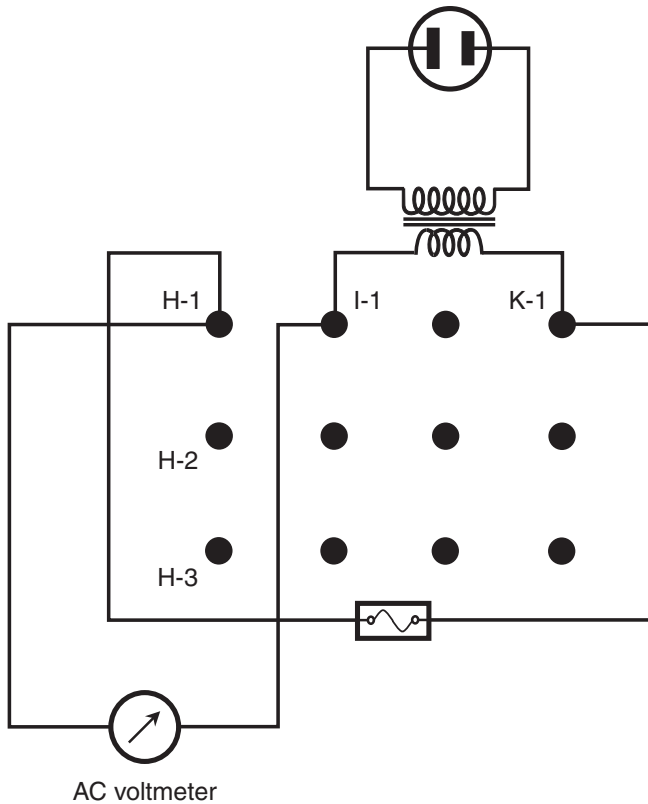

Figure AC7-1 *Measurement of the open-circuit AC voltage across the transformer's secondary winding.*
Set the transformer for its low-voltage output [rated at 18 volts (V) RMS]. Using your digital multimeter, measure the open-circuit AC voltage across the transformer's secondary winding with the fuse in the line (Fig. AC7-1). When I conducted this test, I got 19.4 V RMS, somewhat higher than the rated voltage. Switch the transformer to the high output setting (rated at 24 V RMS). Measure the open-circuit AC voltage again. I got 26.5 V RMS.